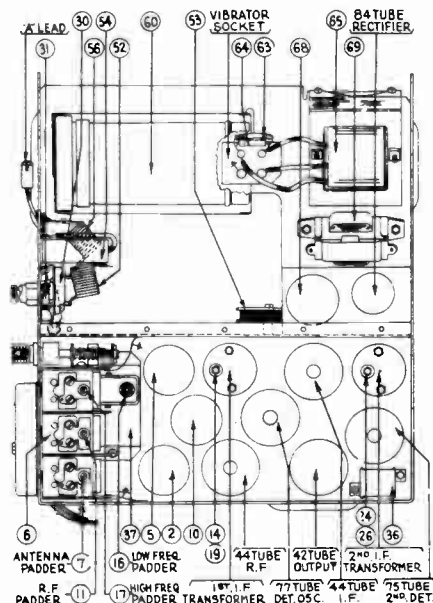

FIG. 2
Remove the cover from the Receiver and disconnect the grid clip from the 77 tube. (For location see Fig. 2.)
The primary screw padders ⑫ and ⑬ must be screwed all the way in. (Figs. 2 and 3.) The secondary nut padders ⑭ and ⑮ must then be adjusted. These padders should be adjusted for maximum reading on the output meter.